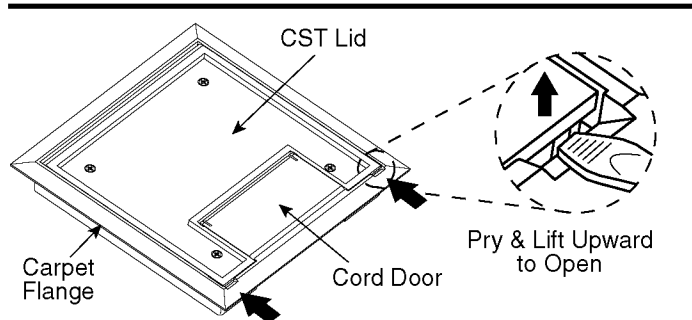

FIGURE 1
- 1) To lift the lid on the Concealed Service Top (CST), insert screwdriver into two slots and pry upward (see Figure 1).
- 2) Lift CST Lid (see Figure 1).